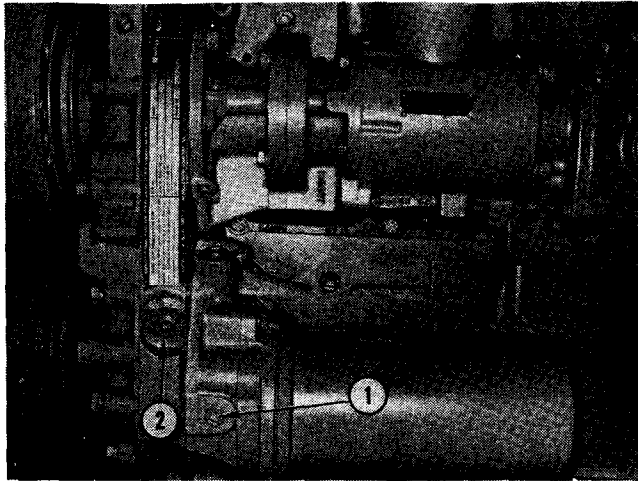

Fig. 14-61, (N11963). Lubricating system piming point
2. Remove plug from head of lubricating oil filter housing or gear case to prime system. See 1 or 2, Fig. 14-61.